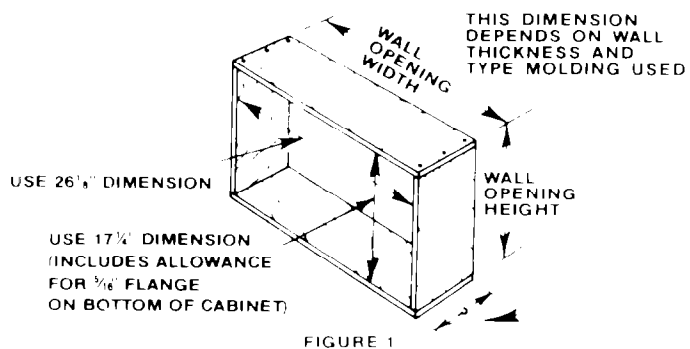

FIGURE 1
- B. Provide an opening through the wall for a finish frame. Observe all local governing codes and ordinances. For wall opening dimensions, use those shown in Figure 1 and add wood frame thickness (use 1" lumber or heavier). When determining finish frame thickness, be sure you do not cover side cabinet louvers. A 4" minimum clearance between louvers on cabinet sides and adjoining wall allows for proper air-flow into air conditioner.